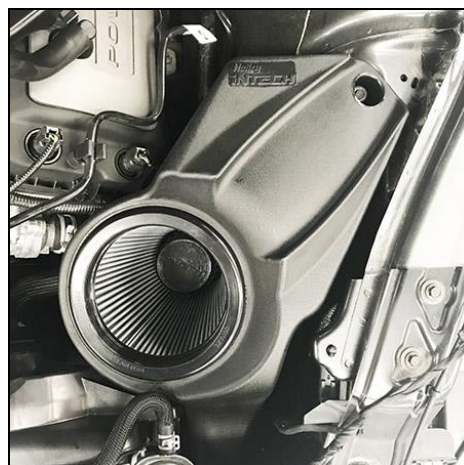

Figure 4
13. Secure housing with the previously removed factory bolt (**Figure 4**).